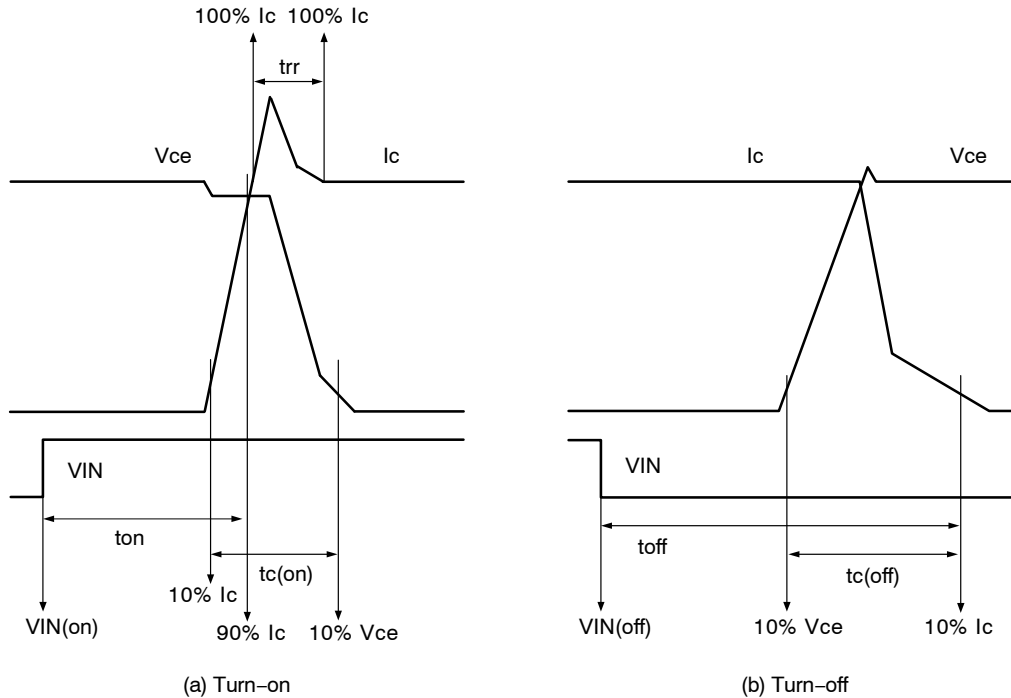

Figure 3. Switching Time Definitions
6. ton and toff include the propagation delay time of the internal drive IC. tc(on) and tc(off) are the switching time of IGBT itself under the given gate driving condition internally. For the detailed information, please see Figure 3.